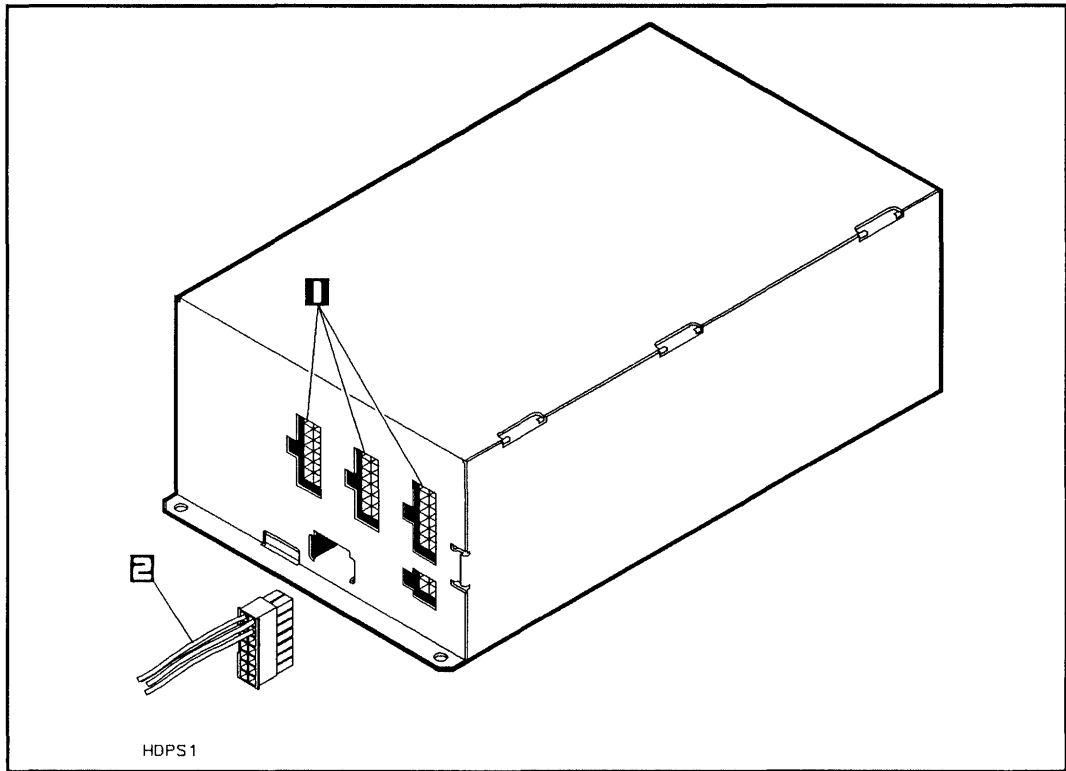

Figure 2-11. Connecting the DC Power Cable
6. Connect the other end of the dc power cable to any of the unused dc power connectors on the power supply (see Figure 2-11).
1. Disconnect the proper dc power cable from the dc power connector on the power supply (see Figure 2-11) and from the dc power connector on the hard disk drive, then cut the power cable tie wrap.